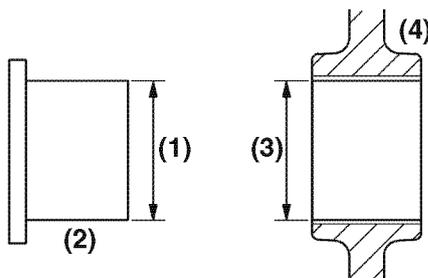

Figure 6-80
1. Measure the outside diameter (**Figure 6-80, (1)**) of the idler gear shaft (**Figure 6-80, (2)**). Record the measurements. *See Idler Gear Shaft and Bushing on page 6-7 for specifications.*
2. Measure the inside diameter (**Figure 6-80, (3)**) of the idler gear bushing (**Figure 6-80, (4)**). Record the measurements. *See Idler Gear Shaft and Bushing on page 6-7 for specifications.*